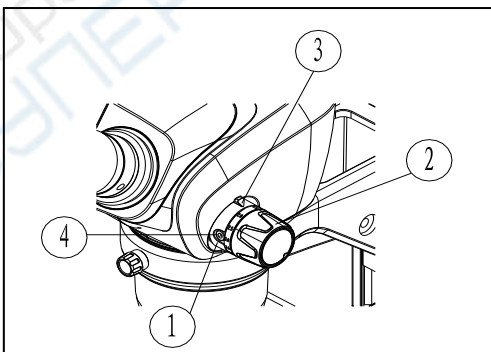

Fig 7
3.2.3 Usage of zoom magnification limiter(Fig 7)